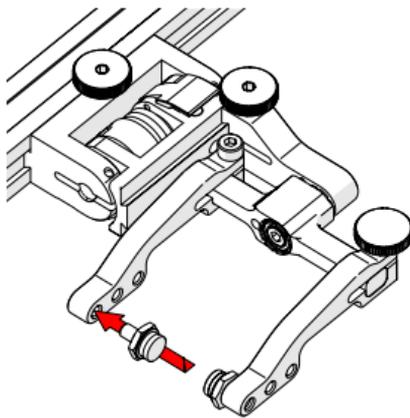

Fig. 92 - Place pivot buttons
- Using the supplied 3/8 in wrench, place the pivot buttons (Fig. 92) farthest from the yoke for maximum wedge clearance.